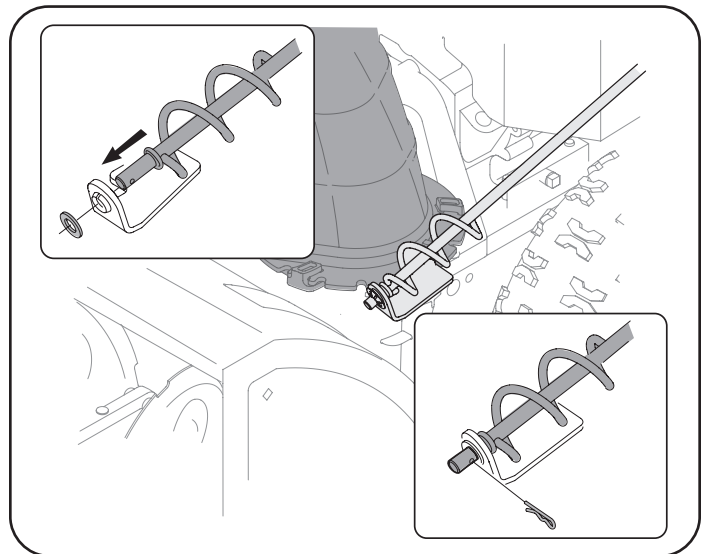

Figure 11
1. Remove plastic cap (if present), flat washer and hairpin clip from end of chute directional control assembly. See Figure 11.